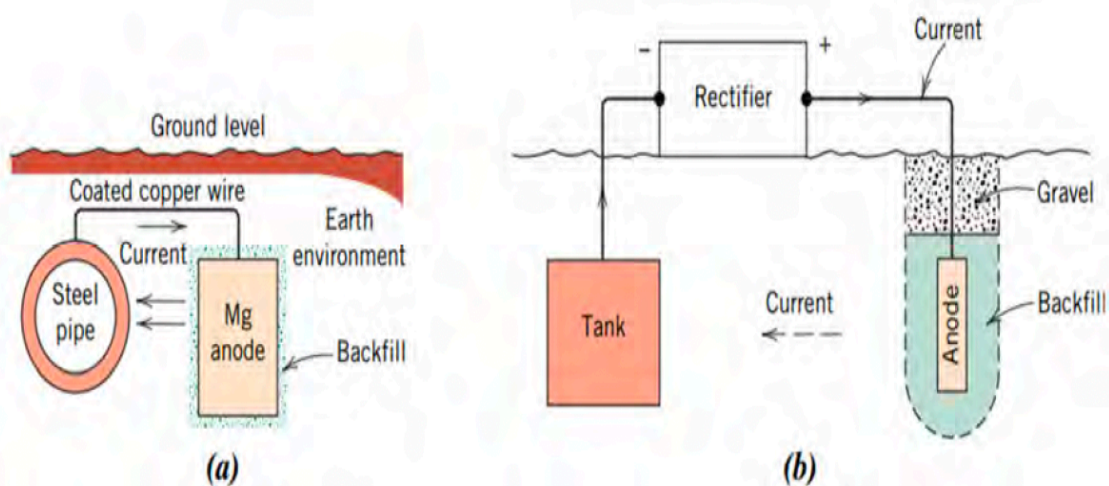

Fig. 5.14: Cathodic protection of (a) an underground pipeline using a magnesium sacrificial anode and (b) an underground tank using an impressed current.
- **(Fig. 5.14):** Diagrams of both cathodic protection methods for underground structures.